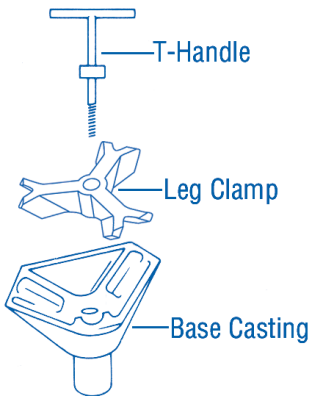

Figure 4
- a. Screw the base T-Handle clockwise into the bottom of the base casting, until the T-Handle engages the threads (Figure 4.)